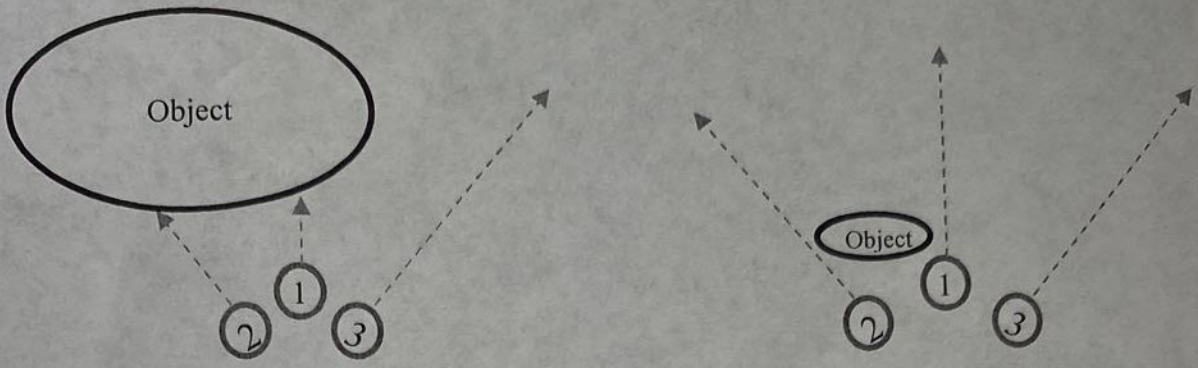

Figure 4. DDR Example Three Sonar Sensor Diagram
- Navigation shall be controlled by proximity sensors (refer to Figure 4.) only for obstacle avoidance and control strategy to maintain a heading of due east. Research in this area by the student will be required.
- Parameters regarding proximity sensor such as those in Figure 4.